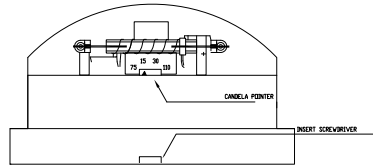

Figure 5:
6. To move selector switch, insert screwdriver into slot shown on the bottom side of the strobe. See Figure 5.
7. Mount the chime mounting plate to the backbox with the cone protector on. After the chime mounting plate is attached to the backbox, remove the cone protector before installing the grille. Next, attach the grille to the chime mounting plate and attach with (2) screws.